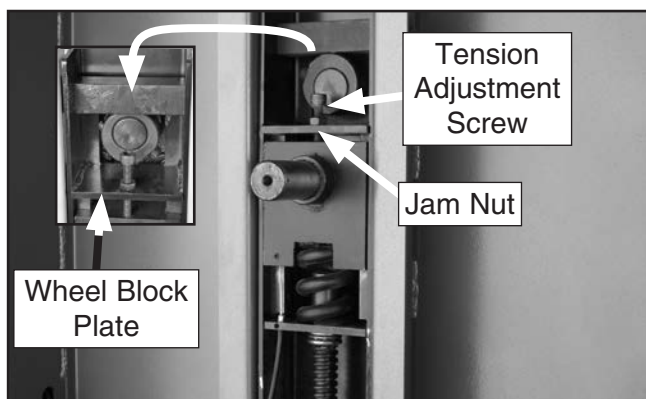

Figure 79. Example of quick release tension lever adjustment screw.
5. Thread the tension adjustment screw (see **Figure 79**) down until it contacts the wheel block plate, then back it off 1-2 turns.